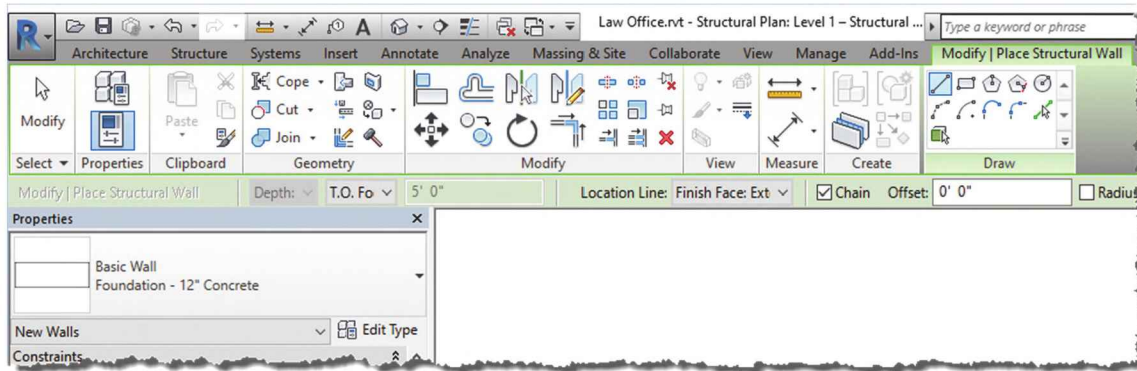

FIGURE 8-5.2 Wall tool – *Ribbon* and *Options Bar* for foundation walls
11. Set the *Type Selector* to **Foundation – 12" Concrete** (Figure 8-5.2).
12. Set the *Location Line* to **Finish Face: Exterior** on the *Options Bar* (Figure 8-5.2).
13. Make sure the *Depth* is set to **T.O. Footing** on the *Options Bar* (Figure 8-5.2).